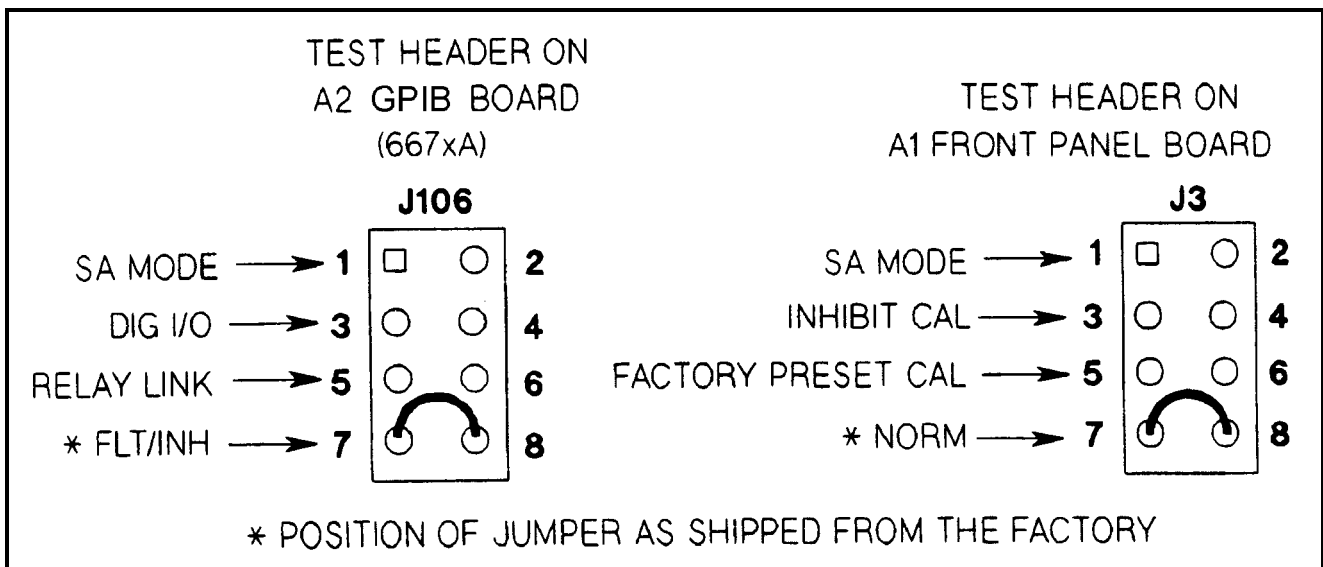

Figure 3-15. Test Header Jumper Positions
The power supply has two test headers as shown in Figure 3-15, each with a jumper that can be moved to different positions for SA testing and for other functions. To gain access to the headers, remove the power supply top cover.
2. Connect SA jumper of connector J106 on A2 GPIB Board (see Figure 3-15).
3. Connect SA jumper of connector J3 on A1 Front Panel Board (see Figure 3-15).
3. Connect signature analyzer CLOCK, START, STOP, and GROUND inputs and setup as shown in Figure 3-15.
If **CAL DENIED** appears on the display when front panel calibration is attempted (or error code 1 occurs when GPIB calibration is attempted on a Systems Supply), the **INHIBIT CAL** jumper (see Figure 3-15) is installed. This prevents the power supply calibration from being changed. To calibrate the power supply first move this jumper from the **INHIBIT CAL** position to the **NORM** position.
| 2 | Move the jumper in test header J3 on the A1 Front Panel Board from the NORM to the FACTORY PRESET CAL position (see Figure 3-15).  |
| 4 | When PWR ON INIT no longer appears, the supply's factory calibration constants have been restored and the password has been changed to 0. There is no longer any password protection. You can now turn off the supply and restore the calibration jumper to the NORM position (see Figure 3-15). |